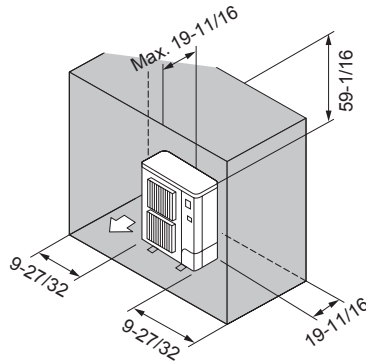

Fig. 3-10
⑥ Obstacles at rear, sides, and above only (Fig. 3-10)